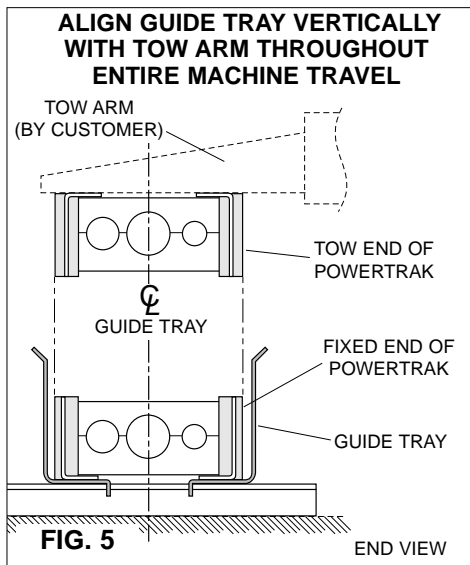

FIG. 5
STEP 6: Adjust guide tray so it is parallel to machine travel and so that tow arm (tow end mounting point of PowerTrak) is plumb with tray centerline throughout entire machine travel. (See Figs 5 & 6). Check positioning as shown on General Arrangement Drawing and reposition tray as needed.